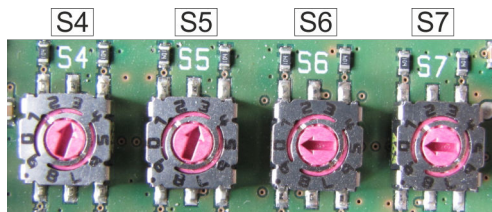

Fig. 33: Configuration
4. Configure the system with addresses (Fig. 33).